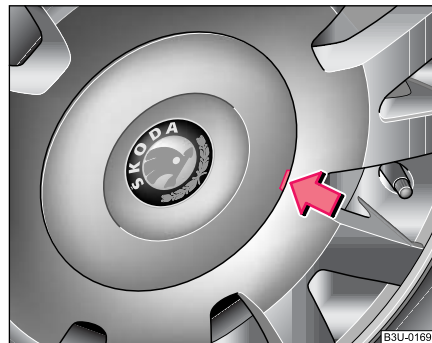

Fig. 143 Pulling off the wheel trim cap
- Carefully ⇒ **fig. 143** lever off the wheel trim cap using the removal hook . ■